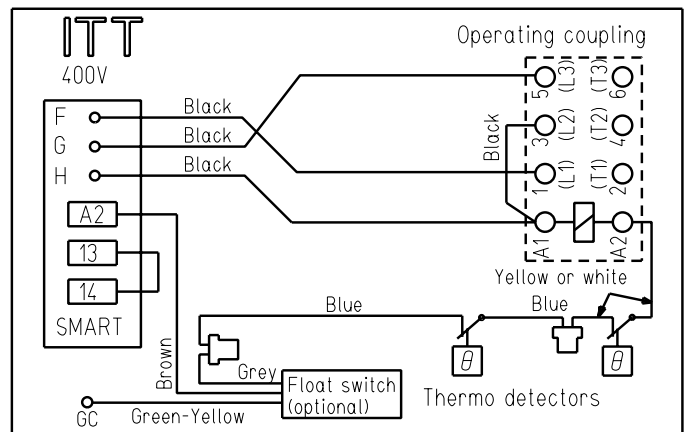

Fig. 5
- Connect according to wiring diagram Fig. 5